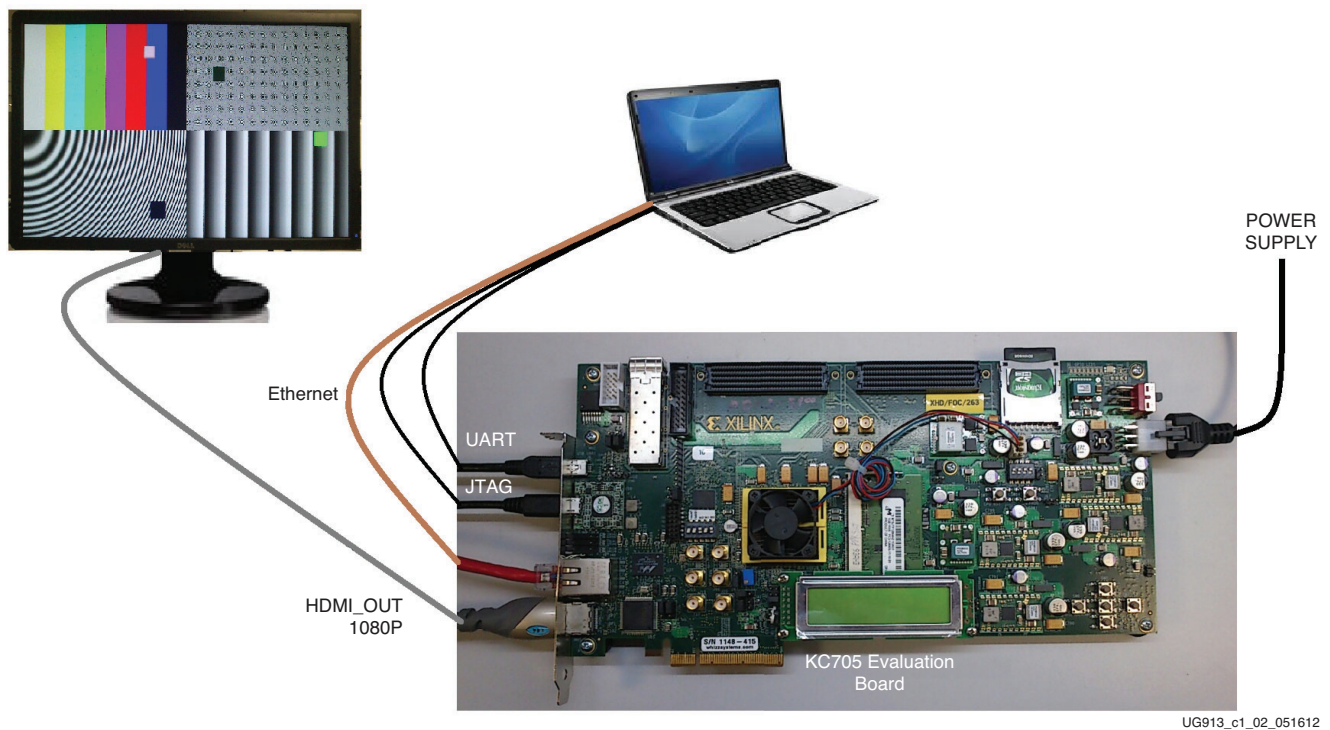

Figure 1-2: Kintex-7 FPGA Video Demonstration Hardware Setup
1. Connect the KC705 board, HDMI cables, display monitor, Ethernet cable, and USB cables as shown in Figure 1-2.